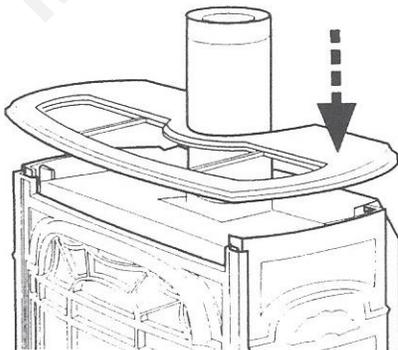

Figure 27a. Install the Top Plate.
2. Place the Top Plate over the sides and front. The upper edge of the side plates should seat into the channel in the underside of the Top. Figure 27a.